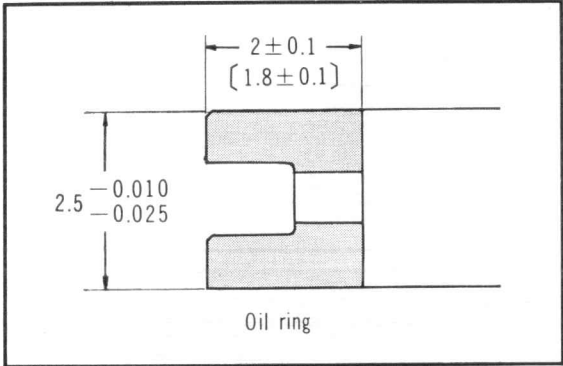

Figure 3-52. Piston oil ring [] for C50, C50M, S50
- (8) Oil ring [] are for C50, C50M, S50(Fig. 3-52, 3-53)